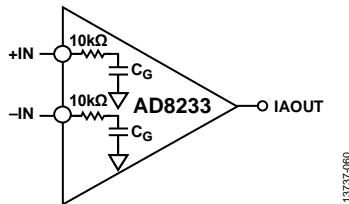

Figure 60. RFI Filter Without External Capacitors
Radio frequency (RF) rectification is often a problem in applications where there are large RF signals. The problem appears as a dc offset voltage at the output. The AD8233 has a $15\ \text{pF}$ gate capacitance and $10\ \text{k}\Omega$ resistors at each input. This forms a low-pass filter on each input that reduces rectification at high frequency (see Figure 60) without the addition of external elements.